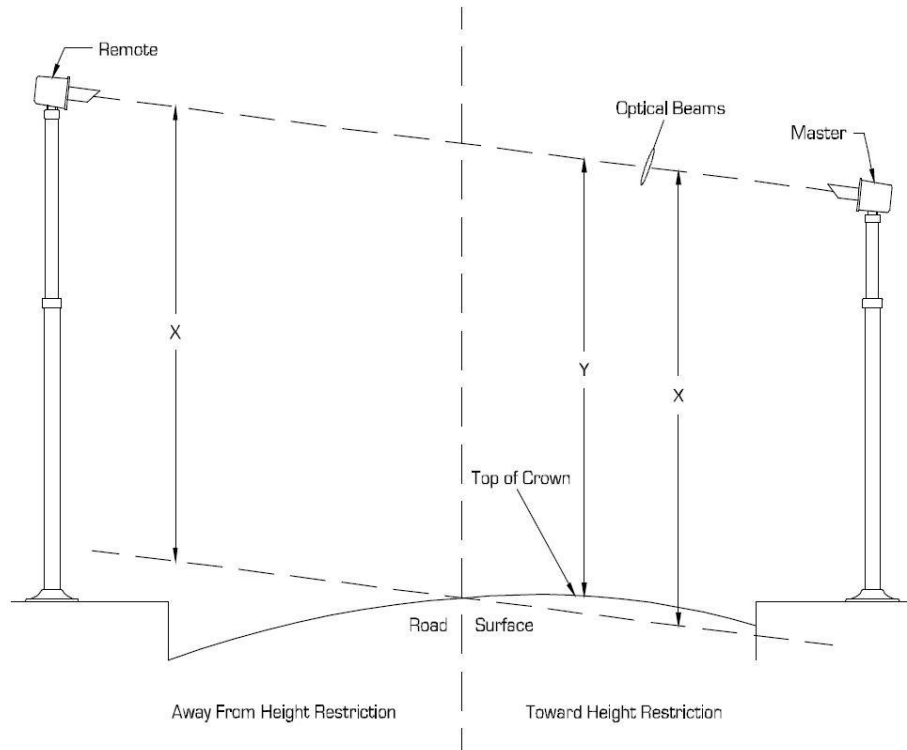

Figure 12: Cross Section of Roadway
1. Set the line of sight across the roadway, parallel (or as close as possible) to the slope of the road in the direction of interest (see **Figure 12:** Cross Section of Roadway).